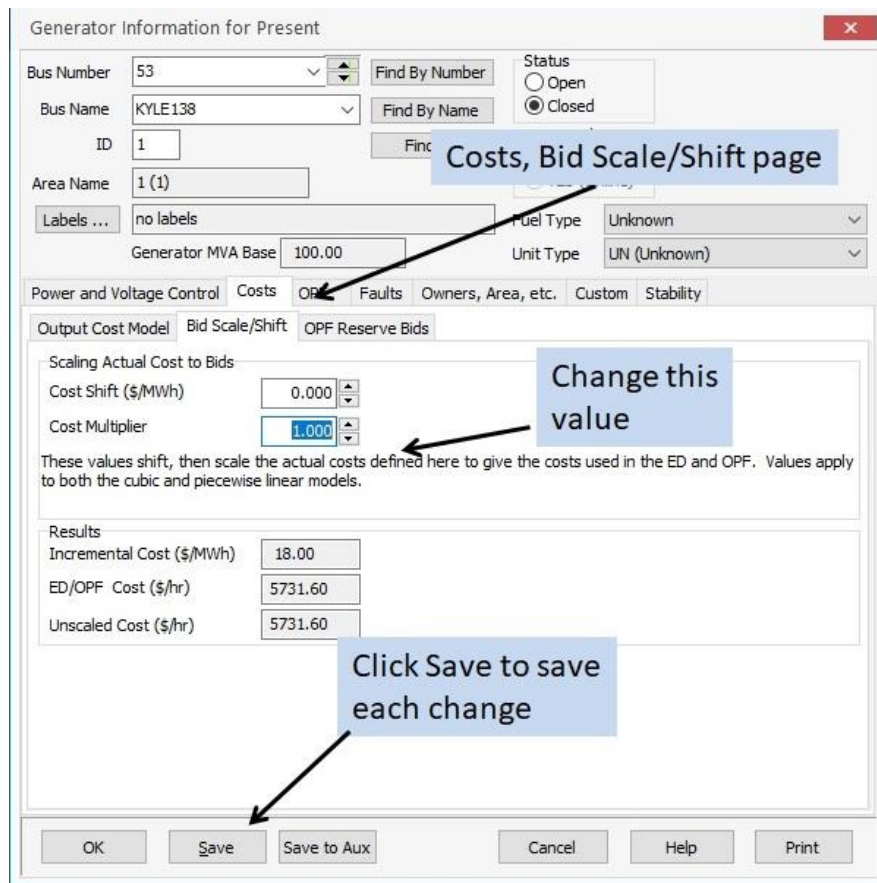

Figure 2: Generator Costs, Bid Scale/Shift Page
5. Decrease the Load Multiplier to 0.9. Up to this point in the lab every generator was offering their generation at marginal cost into the LMP market. In this step you will explore how the profit for the Kyle138 generator would change if they increased their offer. The easiest way to do this is to change the "Cost Multiplier" field, which scales their offer based on their marginal cost. For example, if a generator's marginal cost is \$20/MWh and their Cost Multiplier is changed to 1.5, this is equivalent to a \$30/MWh offer. Future Aggies will be able to do this using arrows next to the field on the oneline, but these do not work in the current WEB 115 lab version. Rather, right-click on the KYLE138 cost multiplier field, select **Generator Dialog**, and go to the **Costs, Bid Scale/Shift** page. You can change the value from this page using the arrows, but you must click **Save** to your changes to be reflected in the OPF. However, you do not need to close the dialog between changes. This is shown in Figure 2. Try various values between 1.0 and 3.0 to try to maximize your profit. Record the value that gives you the maximum profit, save an LMP contour to include in your report, and in your report document the strategy you used to achieve this value. Do you think the variation in your profit with respect to the Cost Multiplier could have multiple local maximums?